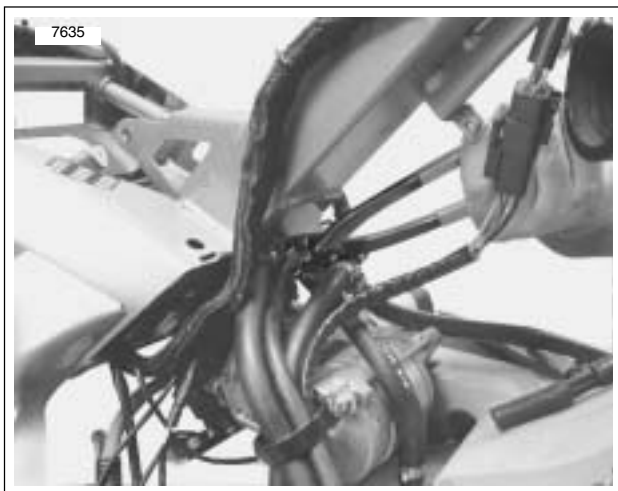

Figure 3-30. Tighten Hose Clamps
14. See Figure 3-30. Tighten hose clamps using Hose Clamp Pliers (Part No. HD-41137).